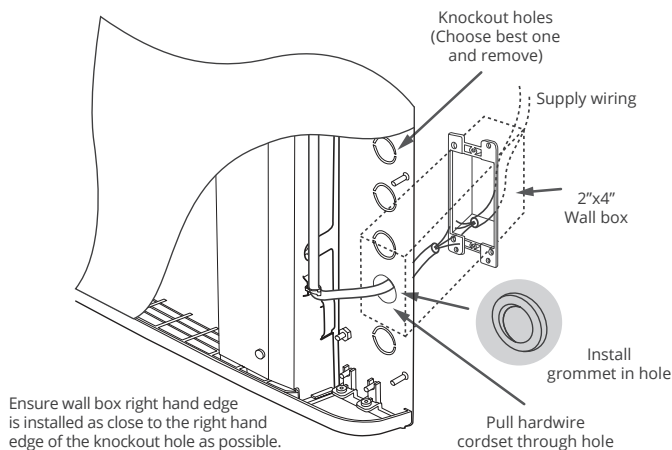

Fig. 8
- 1 Determine the best wall mounting location of the Envi Heater in a room. If the proper electrical wiring and wall box already exists at a suitable height on the wall, then choose a suitable knock-out hole on the back of the heater (5 holes to choose from) and position the heater on the wall so that the knockout hole lines up with the electrical wall box. Refer to Fig. 8 for more details.
- 3 Remove the Envi Heater from the wall to prep for the hardwiring steps. Pull the cordset through the knockout hole using pliers and install the supplied protection grommet. Strip wires to expose 5/8" of copper on all 3 of the cordset wires (see Fig. 8).